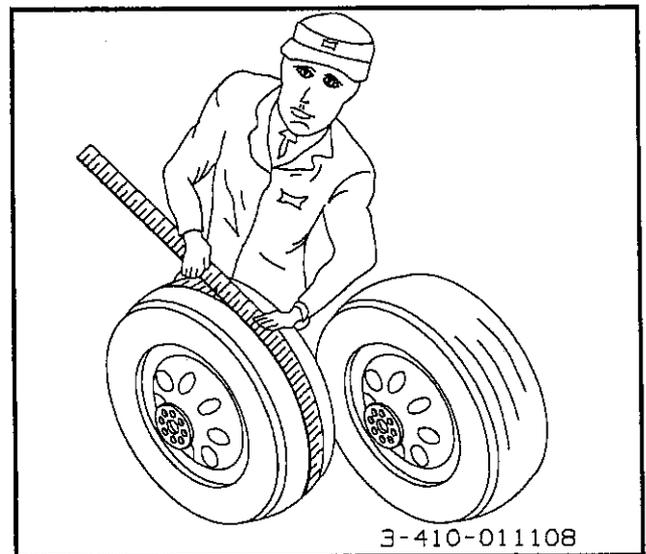

Figure 6-4 Checking Tire Size with Measuring Tape
a. Measure around each tire on the tread surface. A maximum difference of 3/4" in the measurements is allowed between the two mating tires of a dual (See Figure 6-4).